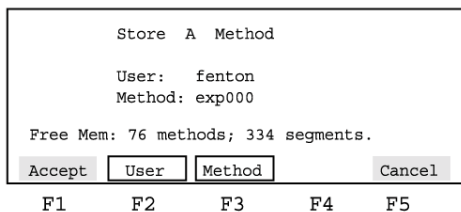

Figure 4-20. The Store screen
1. From the Create screen, press **F2-Store**. This displays the Store screen (Figure 4-20).